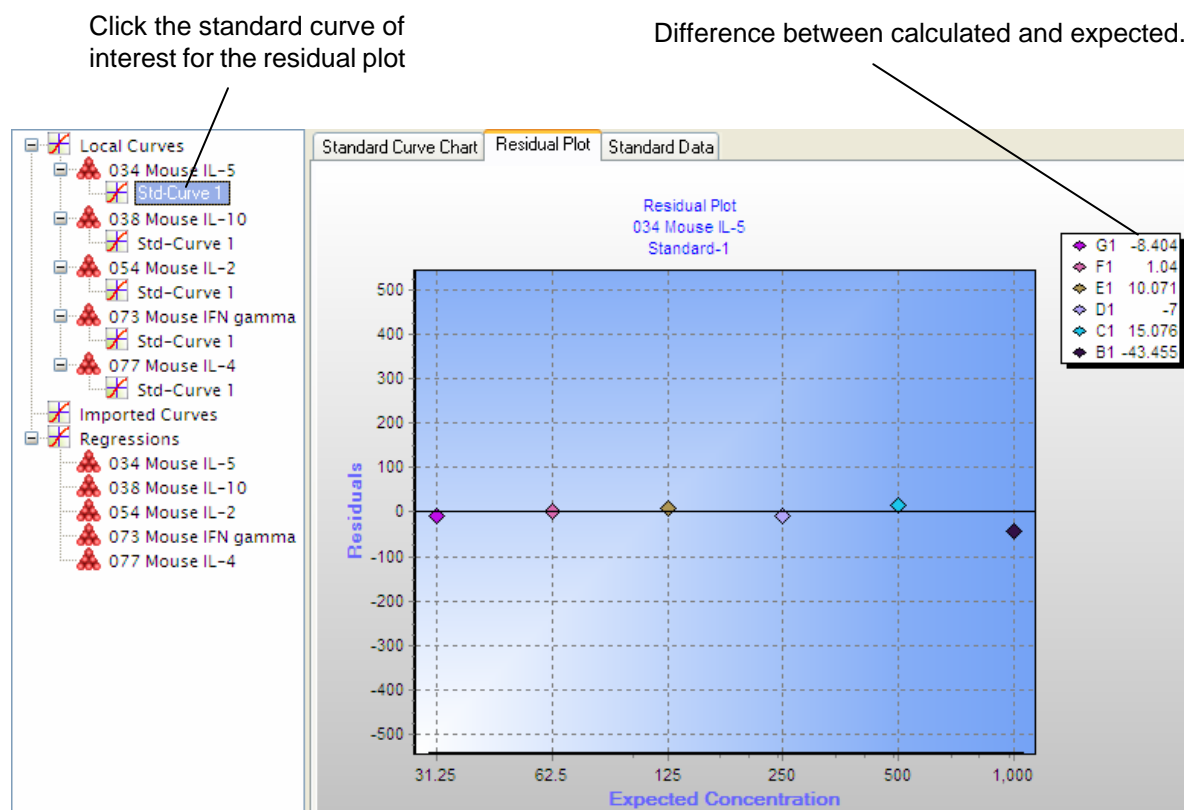

Figure 5.17 Residual plot
- ⇒ The residual plot is displayed (Figure 5.17).